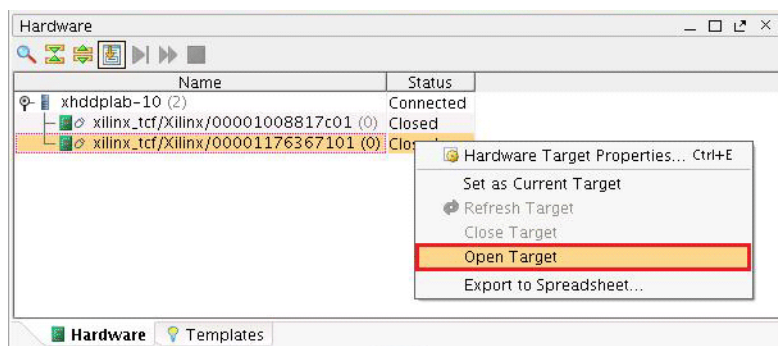

Figure 23: Open Target
9. Right-click the second target platform in the Hardware list and select **Open Target** (Figure 23).